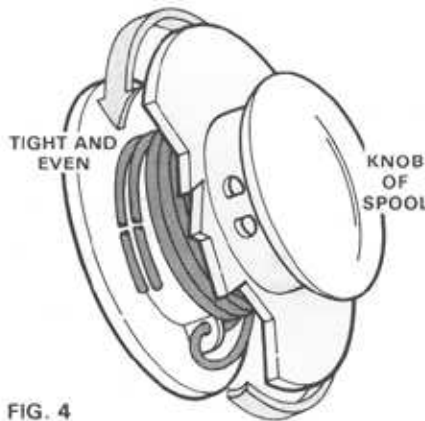

FIG. 4
2. Wind both ends of line at same time: A. Wind counterclockwise as shown (Fig. 4) in direction of arrow marked cc on edge of spool.